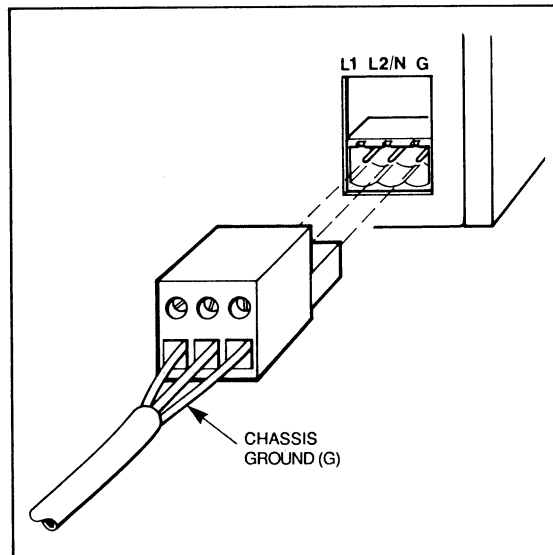
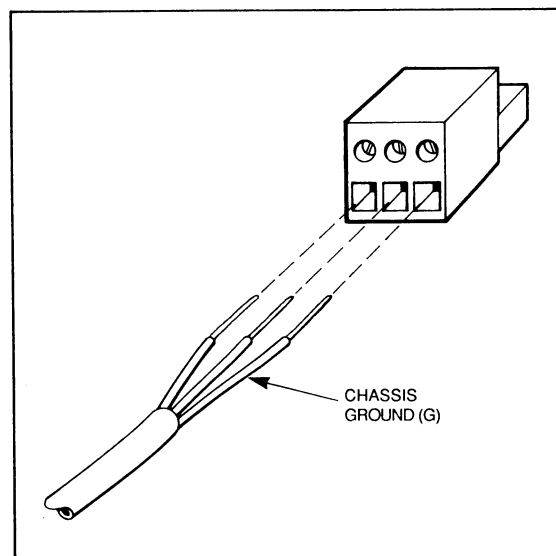

Figure 2-6. Connecting the Power Cable to the Workstation
Figure 2-7. Constructing the Power Cable
4. Insert the three wire ends of the power cable into the three holes of the block plug, as shown in Figure 2-6. The ground, L1 and L2/N wires, should be inserted into the corresponding holes, as indicated in Figure 2-7. Be sure that no bare wire is exposed.